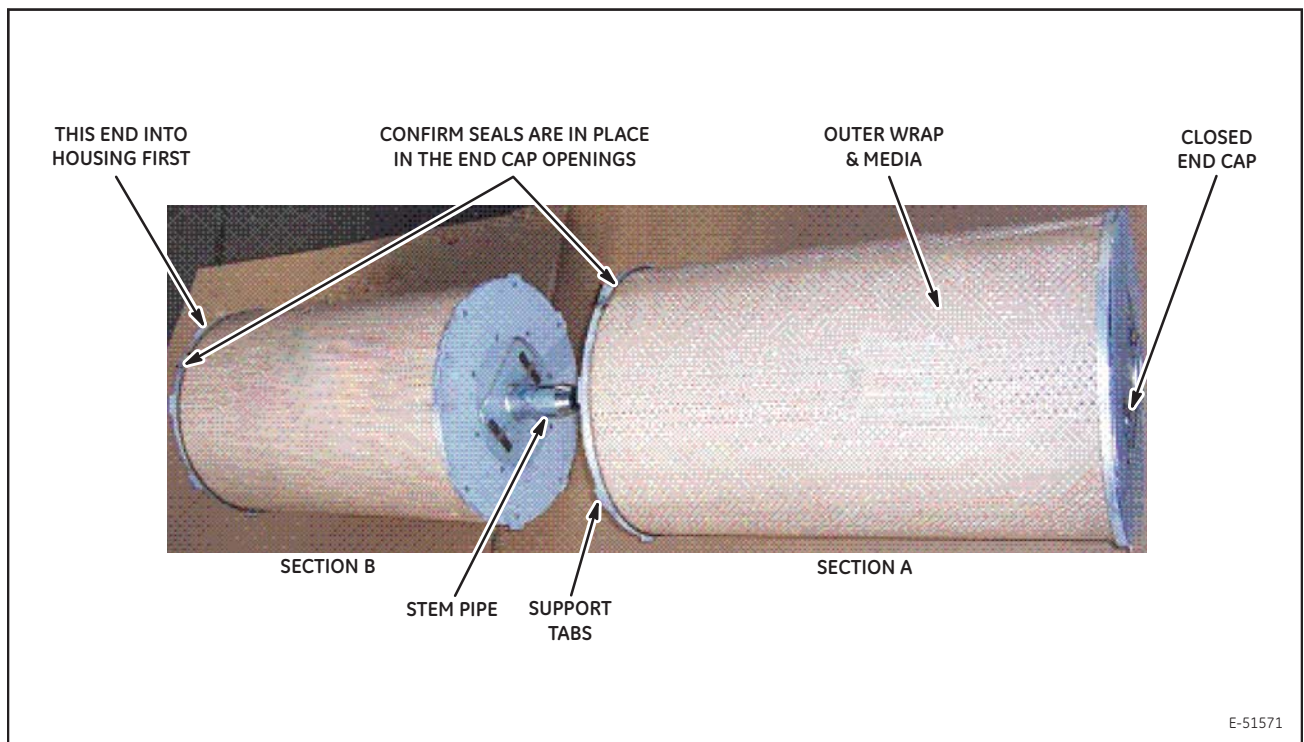

Figure 6. Oil Filters
10. Install new GE approved filter elements. Inspect each element before installation to assure the elements are not damaged and all O-rings are properly located. Install elements in order as shown in Figure 6. Use care during installation to not damage the critical O-ring seal interfaces.